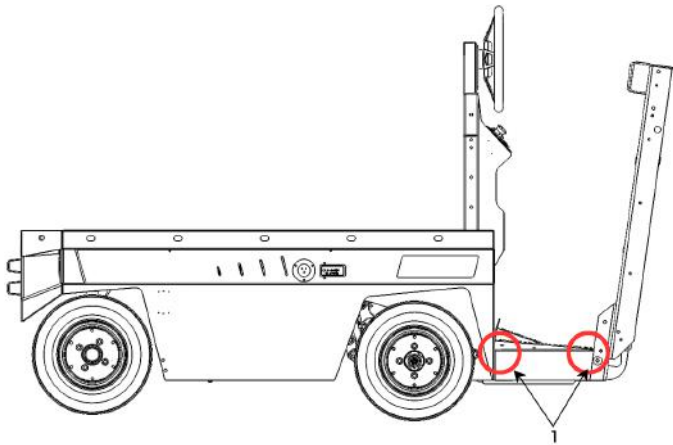

Figure 30. Side Panels.
- Side panels corners (1) (both sides). There is a possibility of cracks occurring in these corners as they undergo significant stress (see Figure 30).